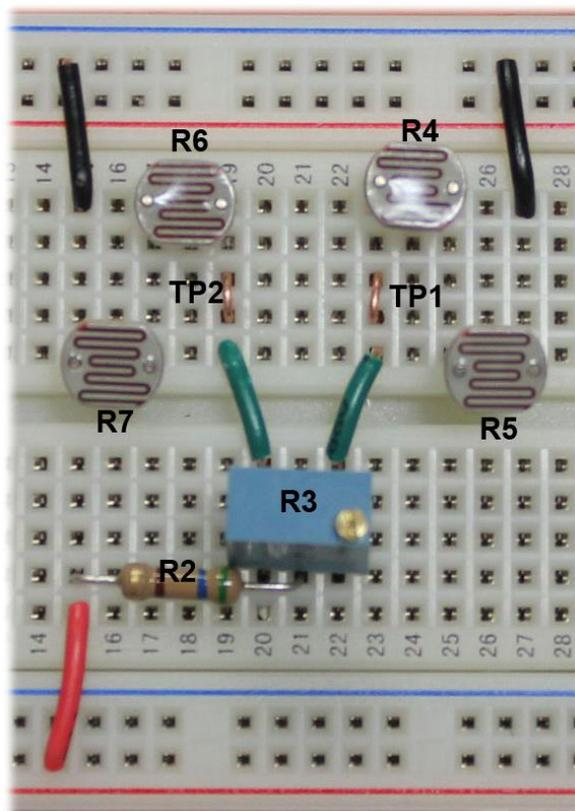

Figure 6. The photoresistor circuit.
You will now build the circuit shown in Figure 6.
1. Insert R3, a 20,000 ohm pot, into the breadboard as shown in Figure 6 (the middle pin of the pot is inserted into row 21 in the photo).
3. Connect a red wire from the positive power bus to the row with R2, as shown in Figure 6.
4. Connect green wires to the left and right pins of R3 as shown in Figure 6.